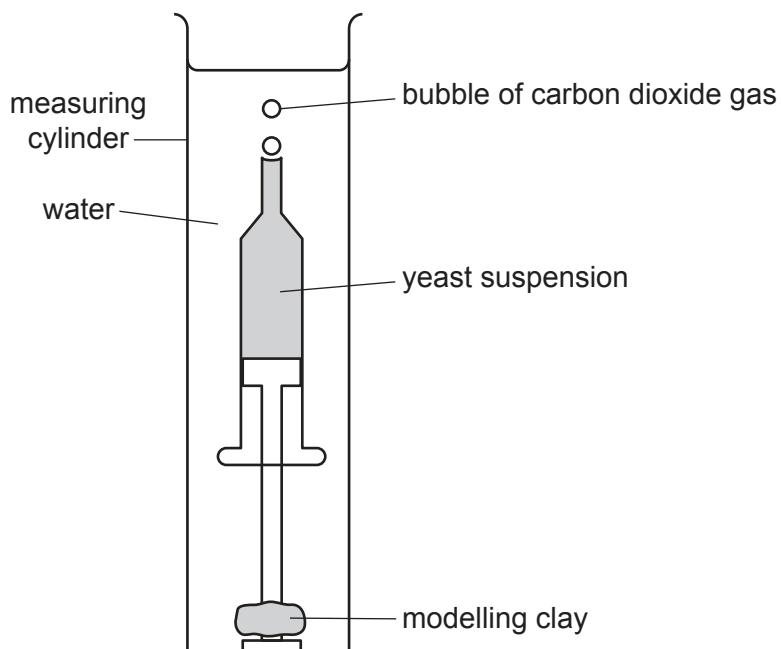

Fig. 1.2
Step 3 Gently lower the syringe into the measuring cylinder, as shown in Fig. 1.2. If necessary, reshape your modelling clay so that it fits inside the cylinder but do **not** remove any modelling clay.